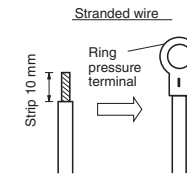

Fig. 5-3
- Cut the wire end with cutting pliers, then strip the insulation to expose the stranded wiring about 10 mm and tightly twist the wire ends. (Fig. 5-3)